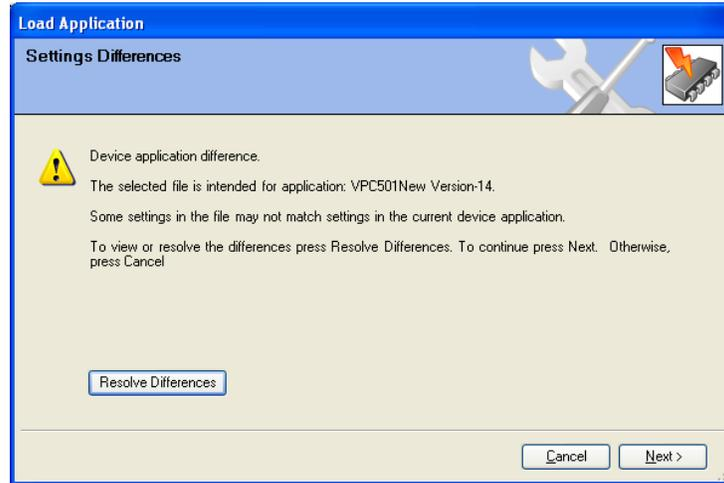

Figure 5-7. Setting Definitions Screen
11. If the display screen in Figure 5-7 pops up after the application is loaded, the conversion will not work properly. Please DO NOT select “NEXT” button to continue. Select “CANCEL” button to terminate the upgrade process and contact Woodward immediately. Woodward may request the diagnostic log located under the Help Menu selection & the settings file saved before the application load.